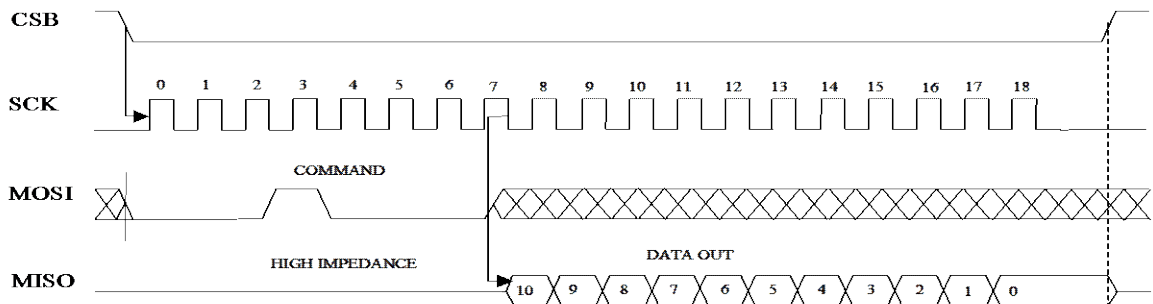

Figure 7. RDAX command and data transmission over the SPI
**Read Z-channel acceleration (RDAX):** RDAX command provides access to AD converted Z-channel acceleration signal stored in acceleration data register X. During normal operation acceleration data register X is loaded in every 150  $\mu$ s, and the load operation is disabled whenever the CSB signal is low, hence CSB has to stay high at least 150  $\mu$ s prior the RDAX command in order to guarantee correct data. Data output is an 11-bit digital word, which is feed out MSB first and LSB last. (See Figure 7).